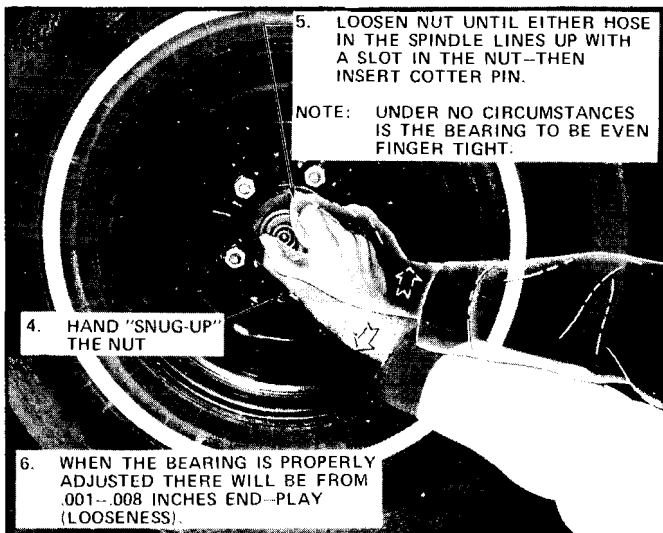

Fig. 3-16 Wheel Bearing Adjustment
5. Adjust bearing as shown in Fig. 3-16.